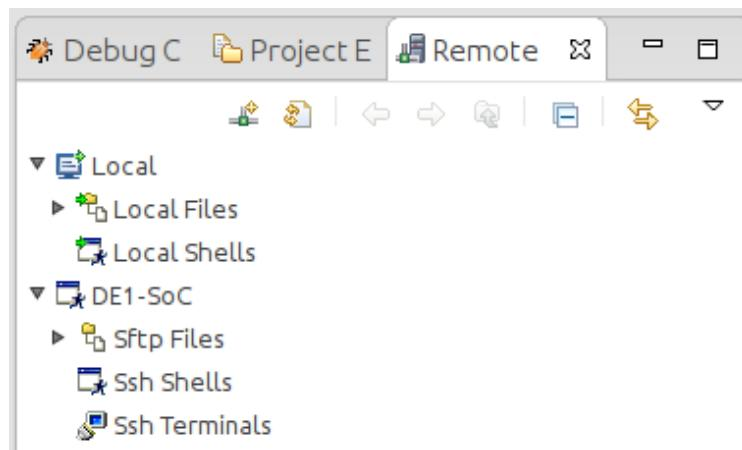

Figure 8-50. New SSH Connection In "Remote Systems" View
18. You should be able to see the remote system in ARM DS-5's "Remote Systems" view, as shown in Figure 8-50.